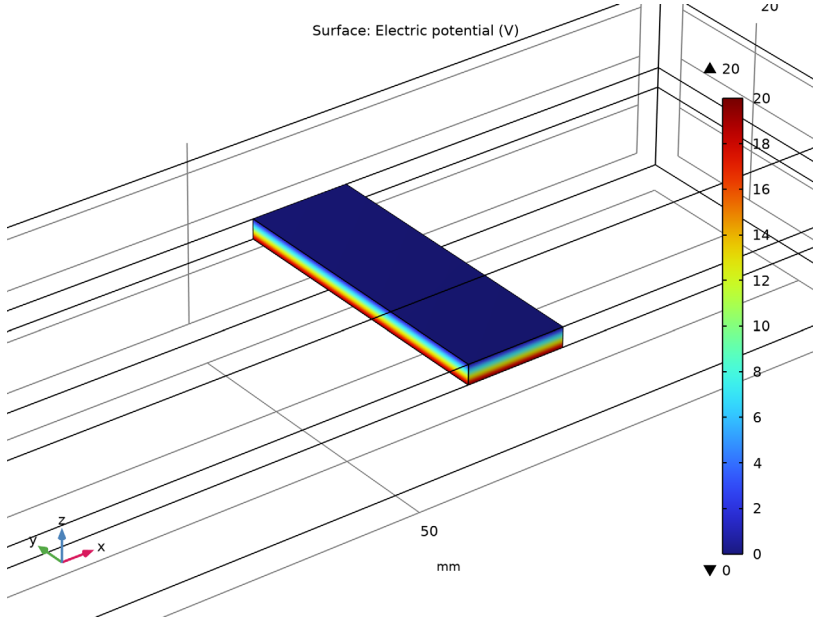

Figure 2: Applied voltage through the piezoelectric material
- *Electrostatics*: The system applies a 20 V potential difference between the top and bottom surfaces of the piezoceramic domain (Figure 2). This gives rise to an electric field perpendicular to the poling direction (x direction) and thus induces a transverse shear strain.